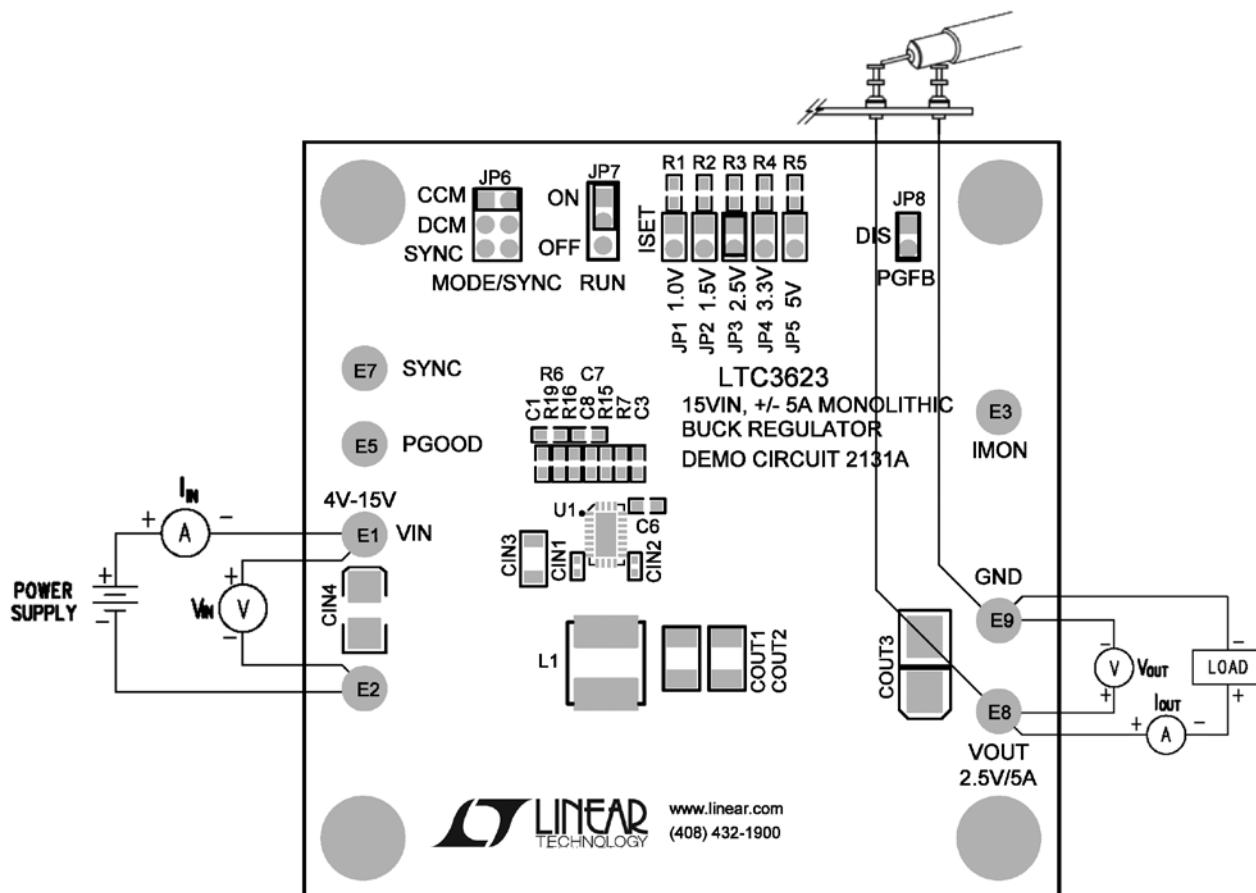

Figure 1. Proper Measurement Equipment Setup
Demonstration circuit 2131A is easy to set up to evaluate the performance of the LTC3623. Refer to Figure 1 for proper measurement equipment setup and follow the procedure below:
**NOTE:** When measuring the output voltage ripple, care must be taken to avoid a long ground lead on the oscilloscope probe. Measure the output voltage ripple by touching the probe tip and ground ring directly across the last output capacitor as shown in Figure 1.